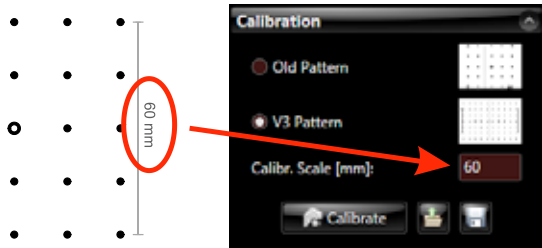

Figure 4.10: Entering the size of the calibration pattern
4. Enter the correct scale length in the "scale [mm]" field. You can find it on the edge of the selected calibration pattern. (30, 60, 120, or 240 - see Figure 4.10)